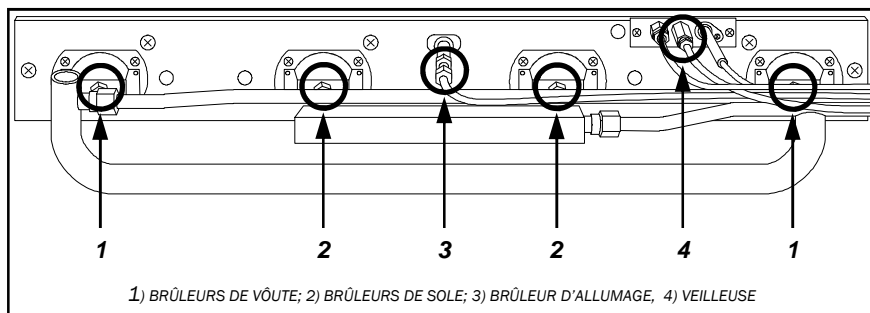

FIG.8 (REMPACEMENT BRÛLEURS DE VÔUTE, SOLE ET D'ALLUMAGE)
- B) REMPLACEMENT DE L'INJECTEUR DU BRÛLEUR D'ALLUMAGE: REMPLACER L'INJECTEUR (FIG.8-RÉF.3) SELON LES INDICATIONS ÉCRITES DANS LE TABLEAU DES DONNÉES TECHNIQUES CONCERNANT LE MODÈLE DU FOUR ACHETÉ.
- C) REMPLACEMENT DE L'INJECTEUR DE LA VEILLEUSE DÉVISSER LE RACCORD (FIG.8-RÉF.4) ET REMPLACER L'INJECTEUR PAR L'INJECTEUR APPROPRIÉ SELON LES INDICATIONS DU TABLEAU DE DONNÉES TECHNIQUES CONCERNANT LE MODÈLE DU FOUR.